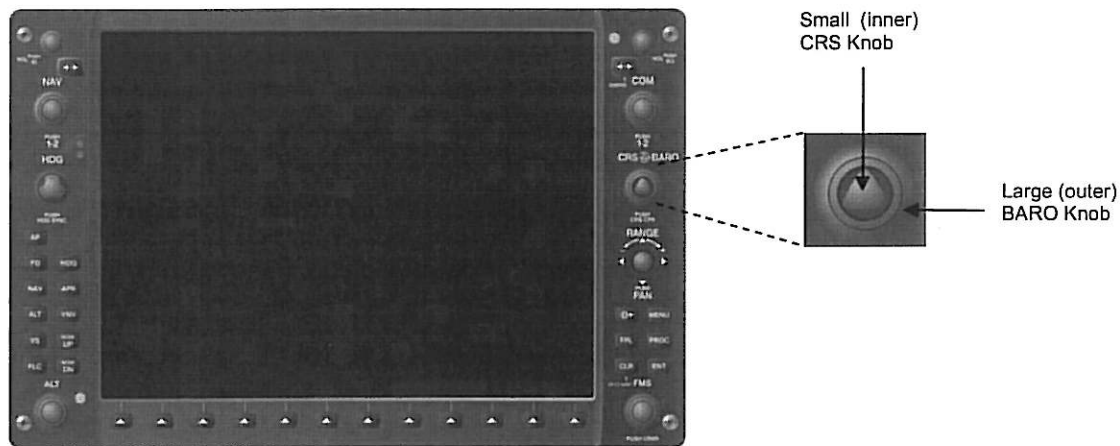
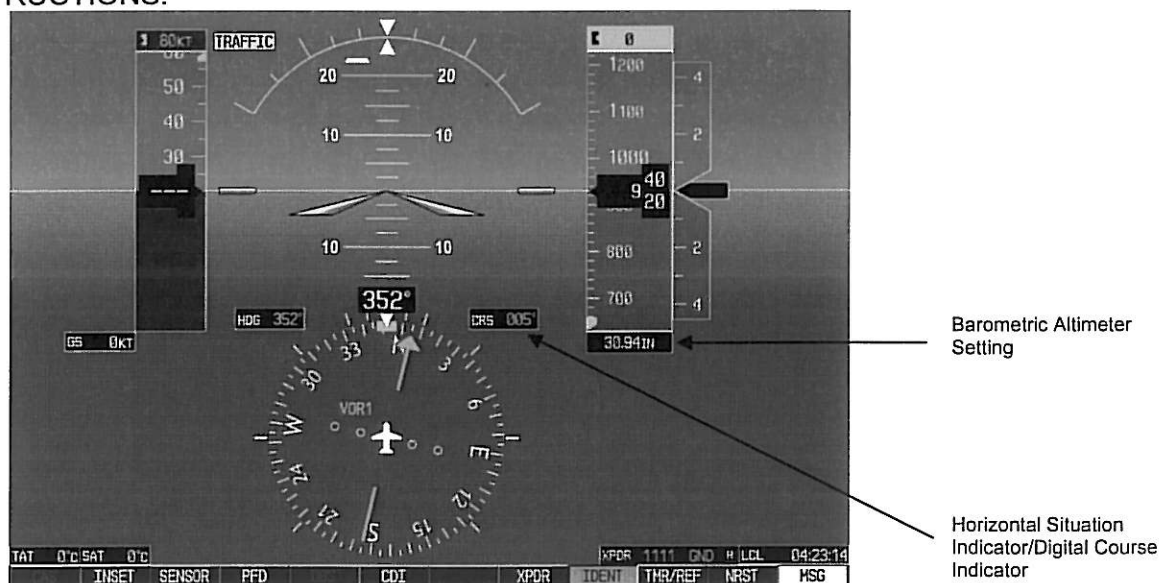

Figure 1
Figure 2
3. Rotate the large (outer) BARO knob (refer to Figure 1) a minimum of three complete revolutions in each direction while monitoring the Horizontal Situation Indicator/Digital Course Indicator (refer to Figure 2) on the PFD. If a change in the Horizontal Situation Indicator/Digital Course Indicator is produced while turning the BARO knob proceed to the Modification Instructions.
4. Rotate the small (inner) CRS knob (refer to Figure 1) a minimum of three complete revolutions in each direction while monitoring the Barometric Altimeter Setting (refer to Figure 2) on the PFD. If a change in the Barometric Altimeter Setting is produced while turning the CRS knob proceed to the Modification Instructions.